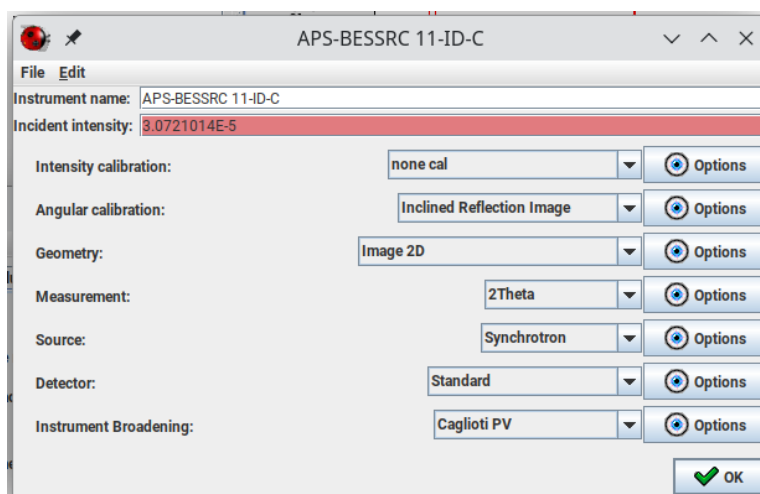

Figure 3. “Diffraction Instrument” window with general setup for synchrotron diffraction images.
- Click “*Edit*” button. This opens the Instrument editing window (Figure 3)